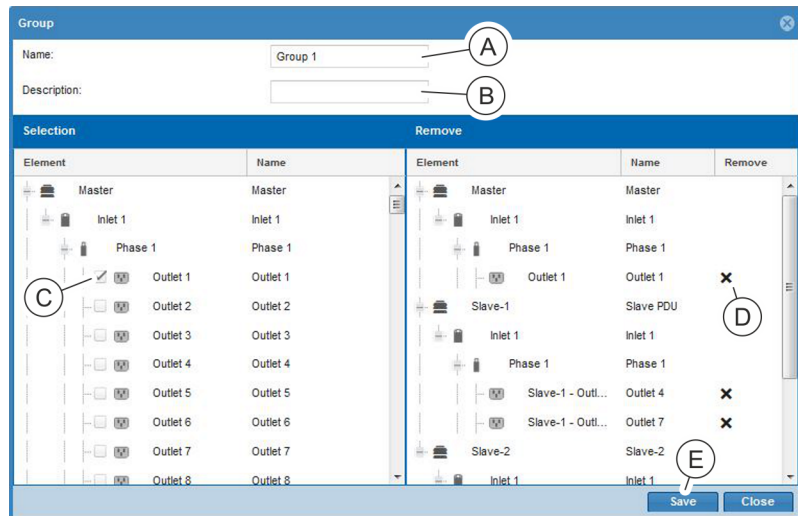

Fig. 111: “Group” window
⇒ The “Group” window opens (Fig. 111).
4. In the “Group” window, add a name (Fig. 111/A) and, if necessary, a description (Fig. 111/B) for the group.
5. In the left-hand column, select individual sockets using the corresponding checkbox (Fig. 111/C).
6. If necessary, remove individual sockets in the right-hand column by clicking the X (Fig. 111/D) button.
7. Press the “Save” button to save a socket group (Fig. 111/E).